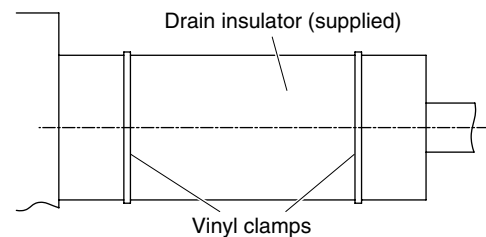

Fig. 3-141b
- (2) After connecting the drain piping securely, wrap the supplied packing and drain pipe insulator around the pipe, then secure it with the supplied vinyl clamps. (Fig. 3-141b)